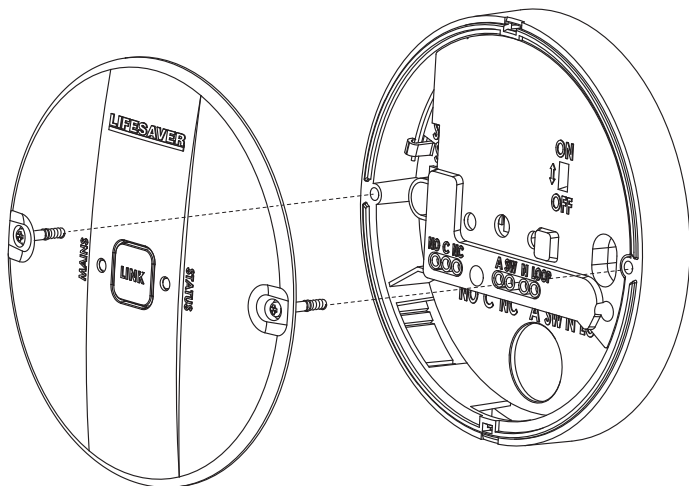

Figure 5
D. After the cables are connected, re-install the module cover. See Figure 5 below.